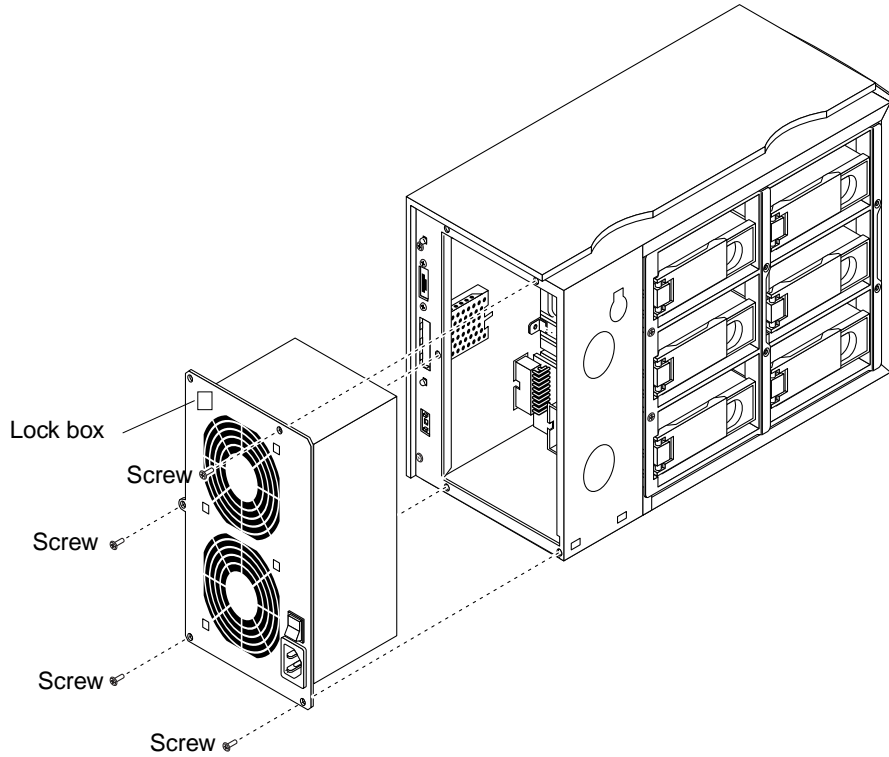

FIGURE 3-11 Lock Box and Power Supply Screw Locations on Back Panel
3. Remove the lock box and the four screws to release the power supply from the chassis (FIGURE 3-11).